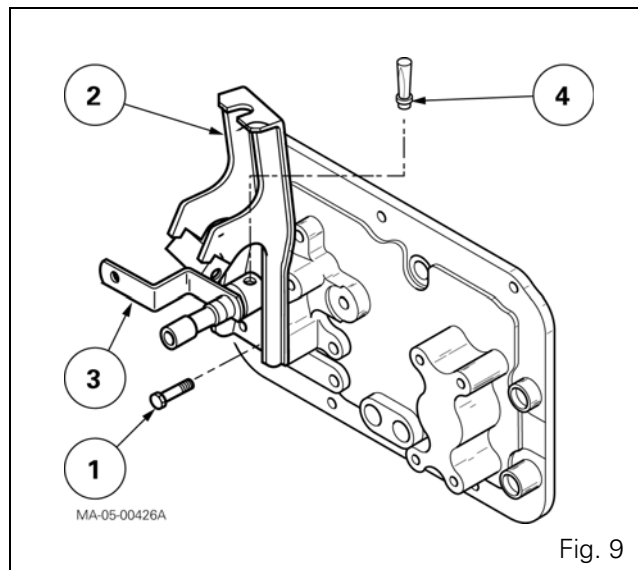

Fig. 9
- 35.** Remove the screws (1). Remove the key (4) and selector (3). Separate the support (2) from the cover plate (Fig. 9).
- 36.** Remove the screws (15). Separate the cover plate (9) and support (16) comprising the gear control assembly. If necessary, extract the locating rings (17).
61. Refit the selector (3). Fit and tighten the key (4) (Fig. 9).
62. In the grid (14), move the finger (13) from 1st to 4th ratio using the selector (3) (Fig. 9) and manually check for the correct locking of the indexing rod in each of its positions.